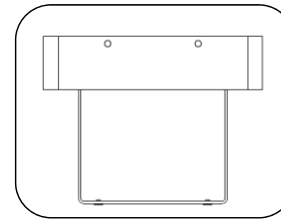

Fig. 1.1
2. Freestanding bench (Fig. 1.1) ships with glides installed. Bench can be set in place.